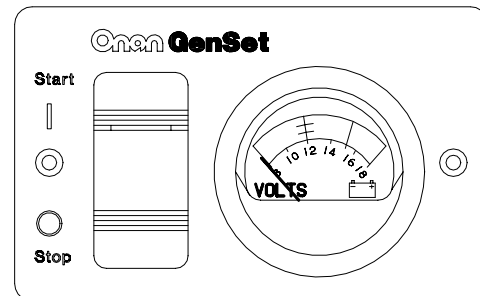

FIGURE 17. REMOTE CONTROL / DC VOLTMETER
- Remote start/stop switch with status indicator light and DC voltmeter (Figure 17).